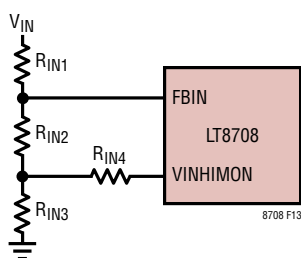
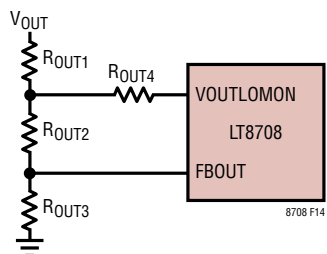

Figure 13. Single Divider for VINHIMON and FBIN
Figure 14. Single Divider for VOUTLOMON and FBOUT
2. Connect a resistor divider between V_{IN} , FBIN, VINHIMON and GND to configure the V_{IN} regulation and overvoltage thresholds (see Figure 13). Connect a resistor divider between V_{OUT} , VOUTLOMON, FBOUT and GND to configure the V_{OUT} regulation and under-voltage thresholds (see Figure 14).
R_{IN1-4} and R_{OUT1-4} are shown in Figure 13 and Figure 14.